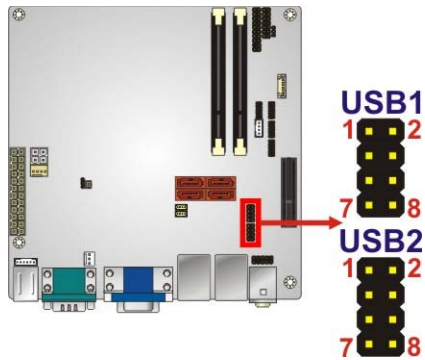

Figure 3-20: USB Connector Locations
- CN Location:** See Figure 3-20